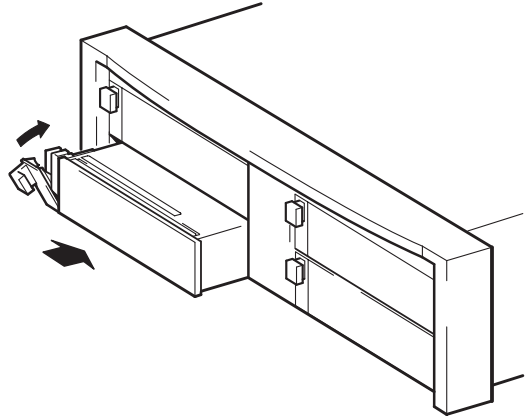

Figure 6b: Installing a half-height tape drive module
- 2 Slide the tape drive module into one of the open bays, ensuring that the guide rails on both sides of the module locate into the slots on the partition wall as shown on Figures 6b and 6d. Carefully but firmly ensure the tape drive module is pushed fully in so that the rear connectors are securely seated. The extractor level will close slightly.